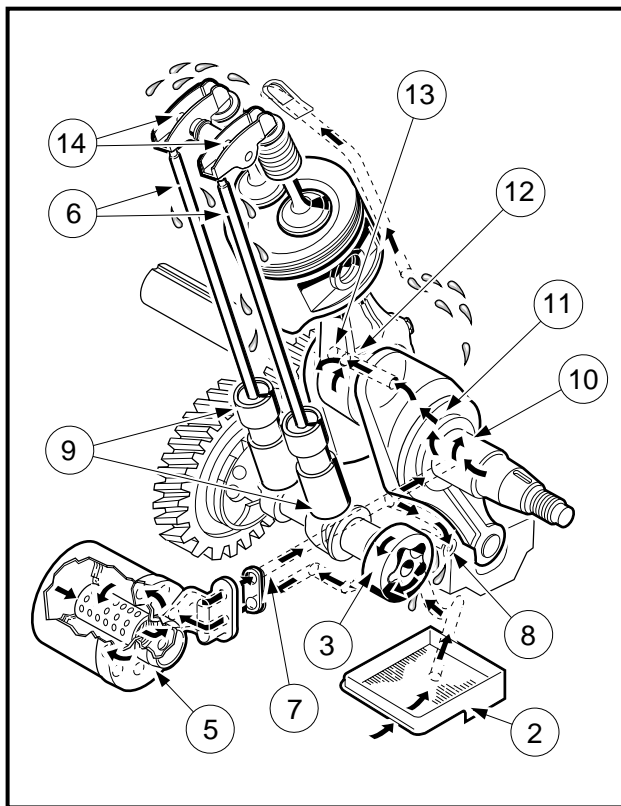
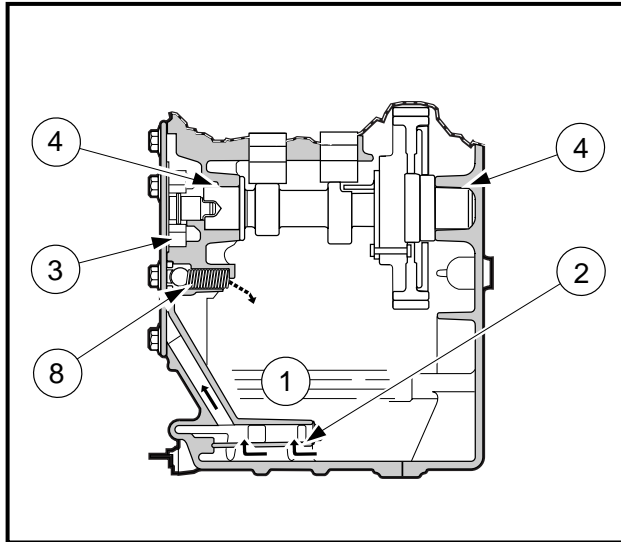
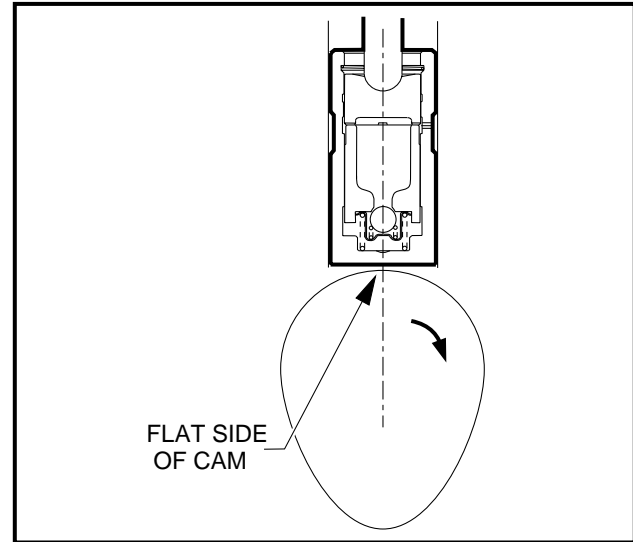

Figure 13-1 Lubrication System
Figure 13-3 Cutaway View of Crankcase
Figure 13-4 Cam Position for Lifter Installation
FE350 engines are equipped with hydraulic lifters and a pressurized lubrication system which consists of these components (Figure 13-1, Page 13-5 and Figure 13-3, Page 13-6):
The pump draws oil from the sump and forces it under pressure into the crankcase passages as shown (**Figures 13-1 and 13-2, Page 13-5**). Oil can build up excess pressure in a lubrication system. To prevent build-up of excess oil pressure which could possibly force oil past the seals and damage the engine, the pump is fitted with a pressure relief valve (8) (**Figure 13-1, Page 13-5 and Figure 13-3, Page 13-6**) that is made of a ball and a spring. When the pressure increases beyond the pressure of the spring, the ball is forced off its seat against the spring pressure and excess oil is routed back into the sump (crankcase), thus relieving the pressure. When the pressure drops below the preset limit, the spring holds the ball against its seat to keep the oil from draining back into the sump (crankcase).
FE350 engines are equipped with non-adjustable rocker arms (14) and hydraulic lifters (9) (**Figure 13-1, Page 13-5**). The purpose of hydraulic lifters is to automatically eliminate all valve clearance in the valve train. This zero-clearance condition ensures that the valve begins to open at precisely the same time during each valve event. However, to ensure good seating, there is a small amount of clearance present after the valve closes. This clearance is eliminated by the lifter before the valve is opened again. The installation of the hydraulic lifters at the time of engine assembly does not, in most cases, require any special techniques beyond the normal practice for solid lifter valve trains. There are, however, two areas of concern to be aware of to assure satisfactory installation and initial engine start. New hydraulic lifters are filled with hydraulic fluid at the time of installation and they are at their fully extended position. As each rocker arm is tightened into place, the lifter should be resting on the flat side of the cam lobe (**Figure 13-4, Page 13-6**). If the camshaft is not in the correct position, it may be possible to open the valve beyond its normal operating range. This may cause over-compensation of the valve spring or contact between the valves and the piston.